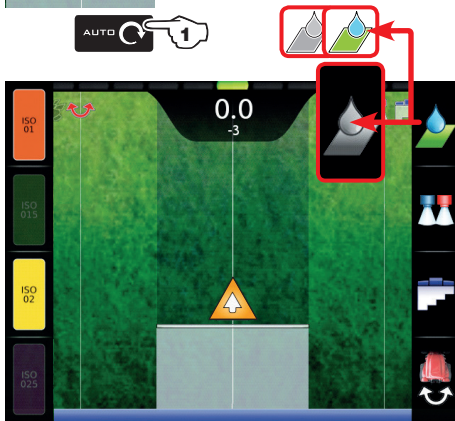

Fig. 262
- 2 Press **F2** (Fig. 262) to enable or disable automatic adjustment.